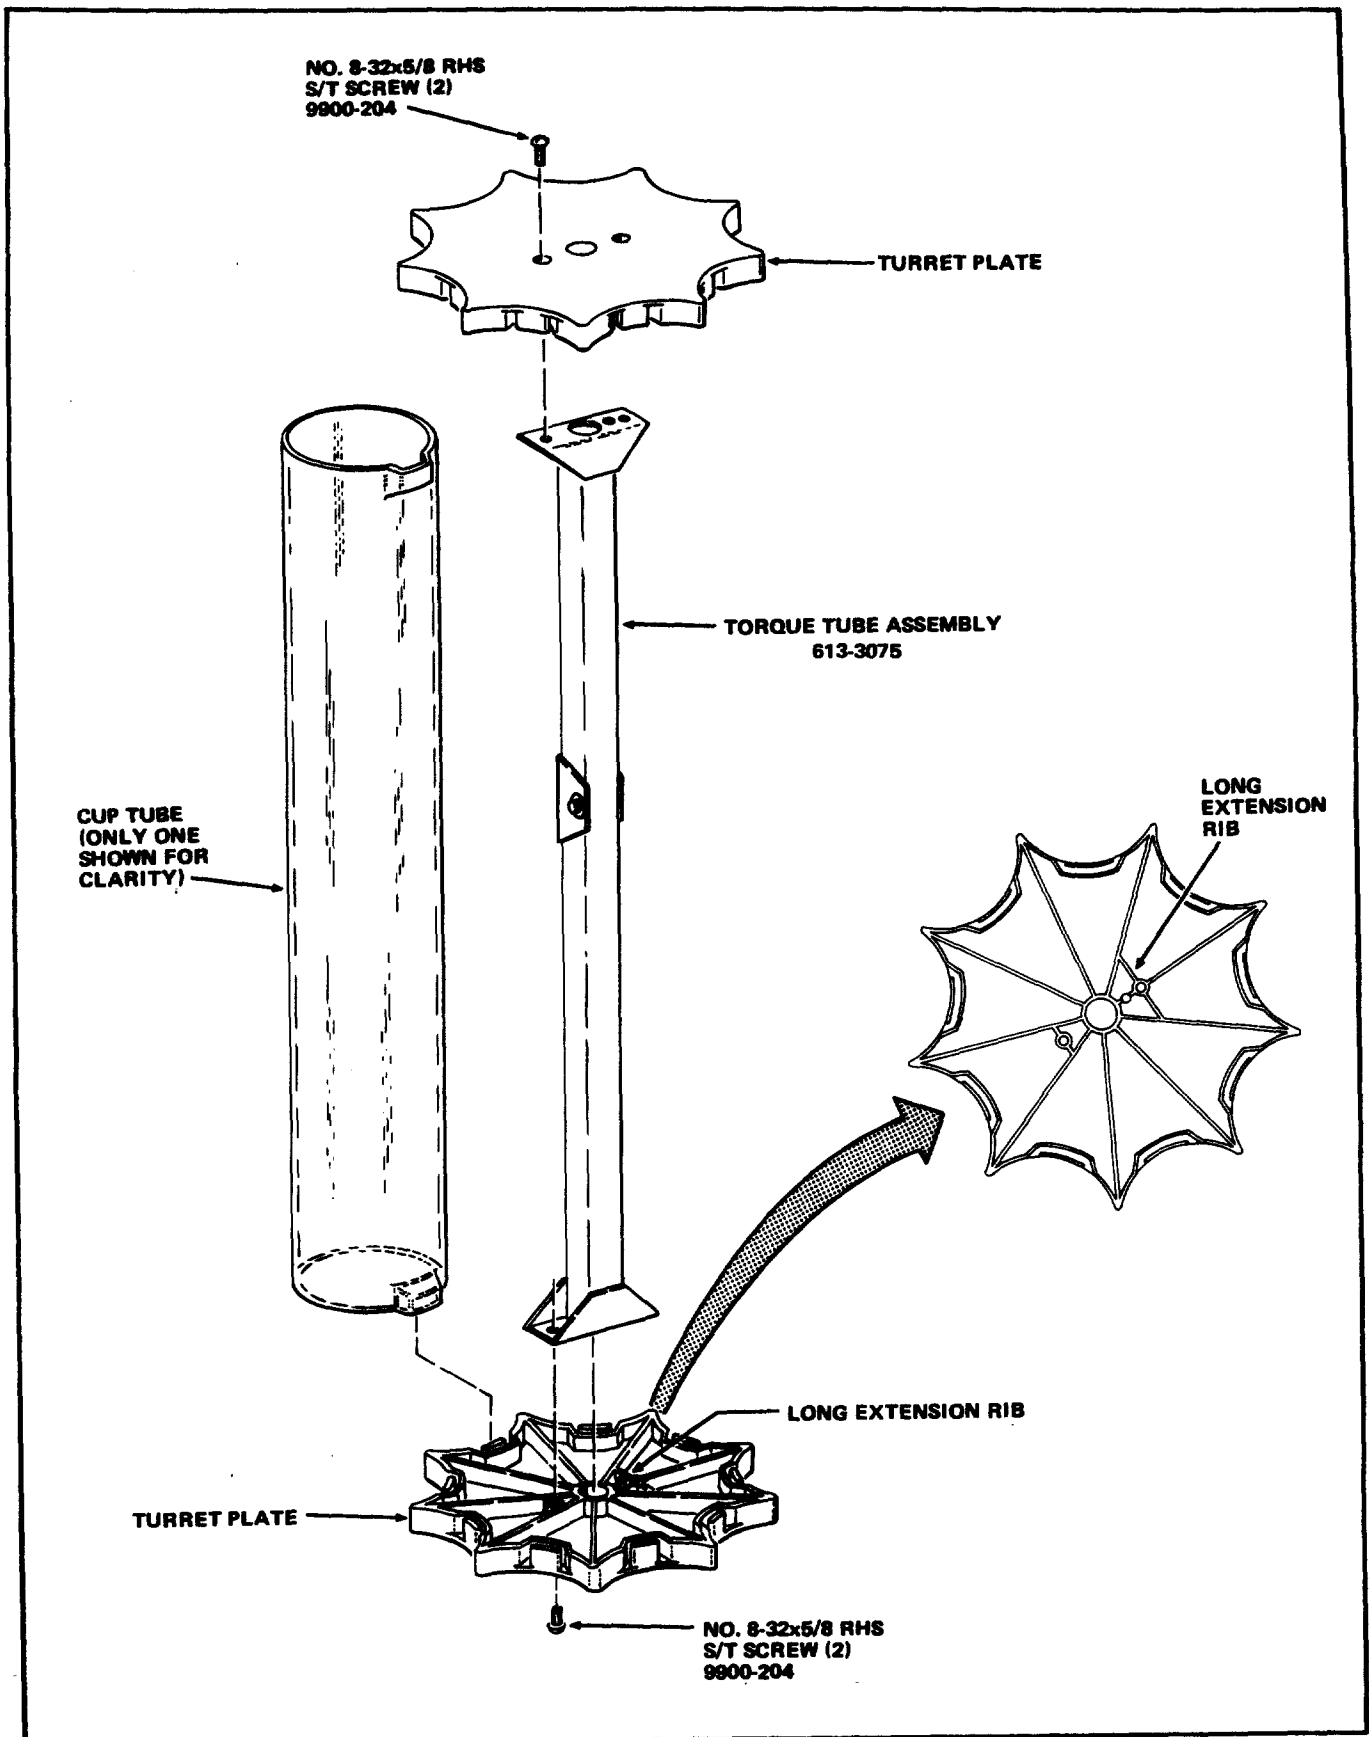

FIGURE 2
6. Remove two No. 8-32 x 5/8 Round Head Self Tapping Screws and the top Turret Plate from the Cup Turret Assembly. See Figure 2.
7. Remove the Cup Tubes from the Cup Turret Assembly. See Figure 2.
8. Remove two No. 8-32 x 5/8 Round Head Self Tapping Screws and the Torque Tube Assembly from the bottom Turret Plate. See Figure 2.
1. Attach the replacement Torque Tube Assembly, Part Number 613-3075, included in the Kit, to the bottom Turret Plate using two No. 8-32 x 5/8 Round Head Self Tapping Screws, Part Number 9900-204, included in the Kit. See Figure 2.
2. Install the Cup Tubes on the bottom Turret Plate. See Figure 2.
The Long Extension Rib on the top Turret Plate MUST be on the same side of the Torque Tube Assembly as the Long Extension Rib on the bottom Turret Plate. See Figure 2.
3. Install the top Turret Plate by fitting the Cup Tubes in the Turret Plate. Attach the Turret Plate to the Torque Tube Assembly with two No. 8-32 x 5/8 Round Head Self Tapping Screws, Part Number 9900-204, included in the Kit. See Figure 2.
13. Install the Cup Dispenser Cover on the Turret Shaft and attach with four No.8-32 x 5/16 Truss Head Self Tapping Screws, Part Number 9900-166, included in the Kit. See Figure 2.